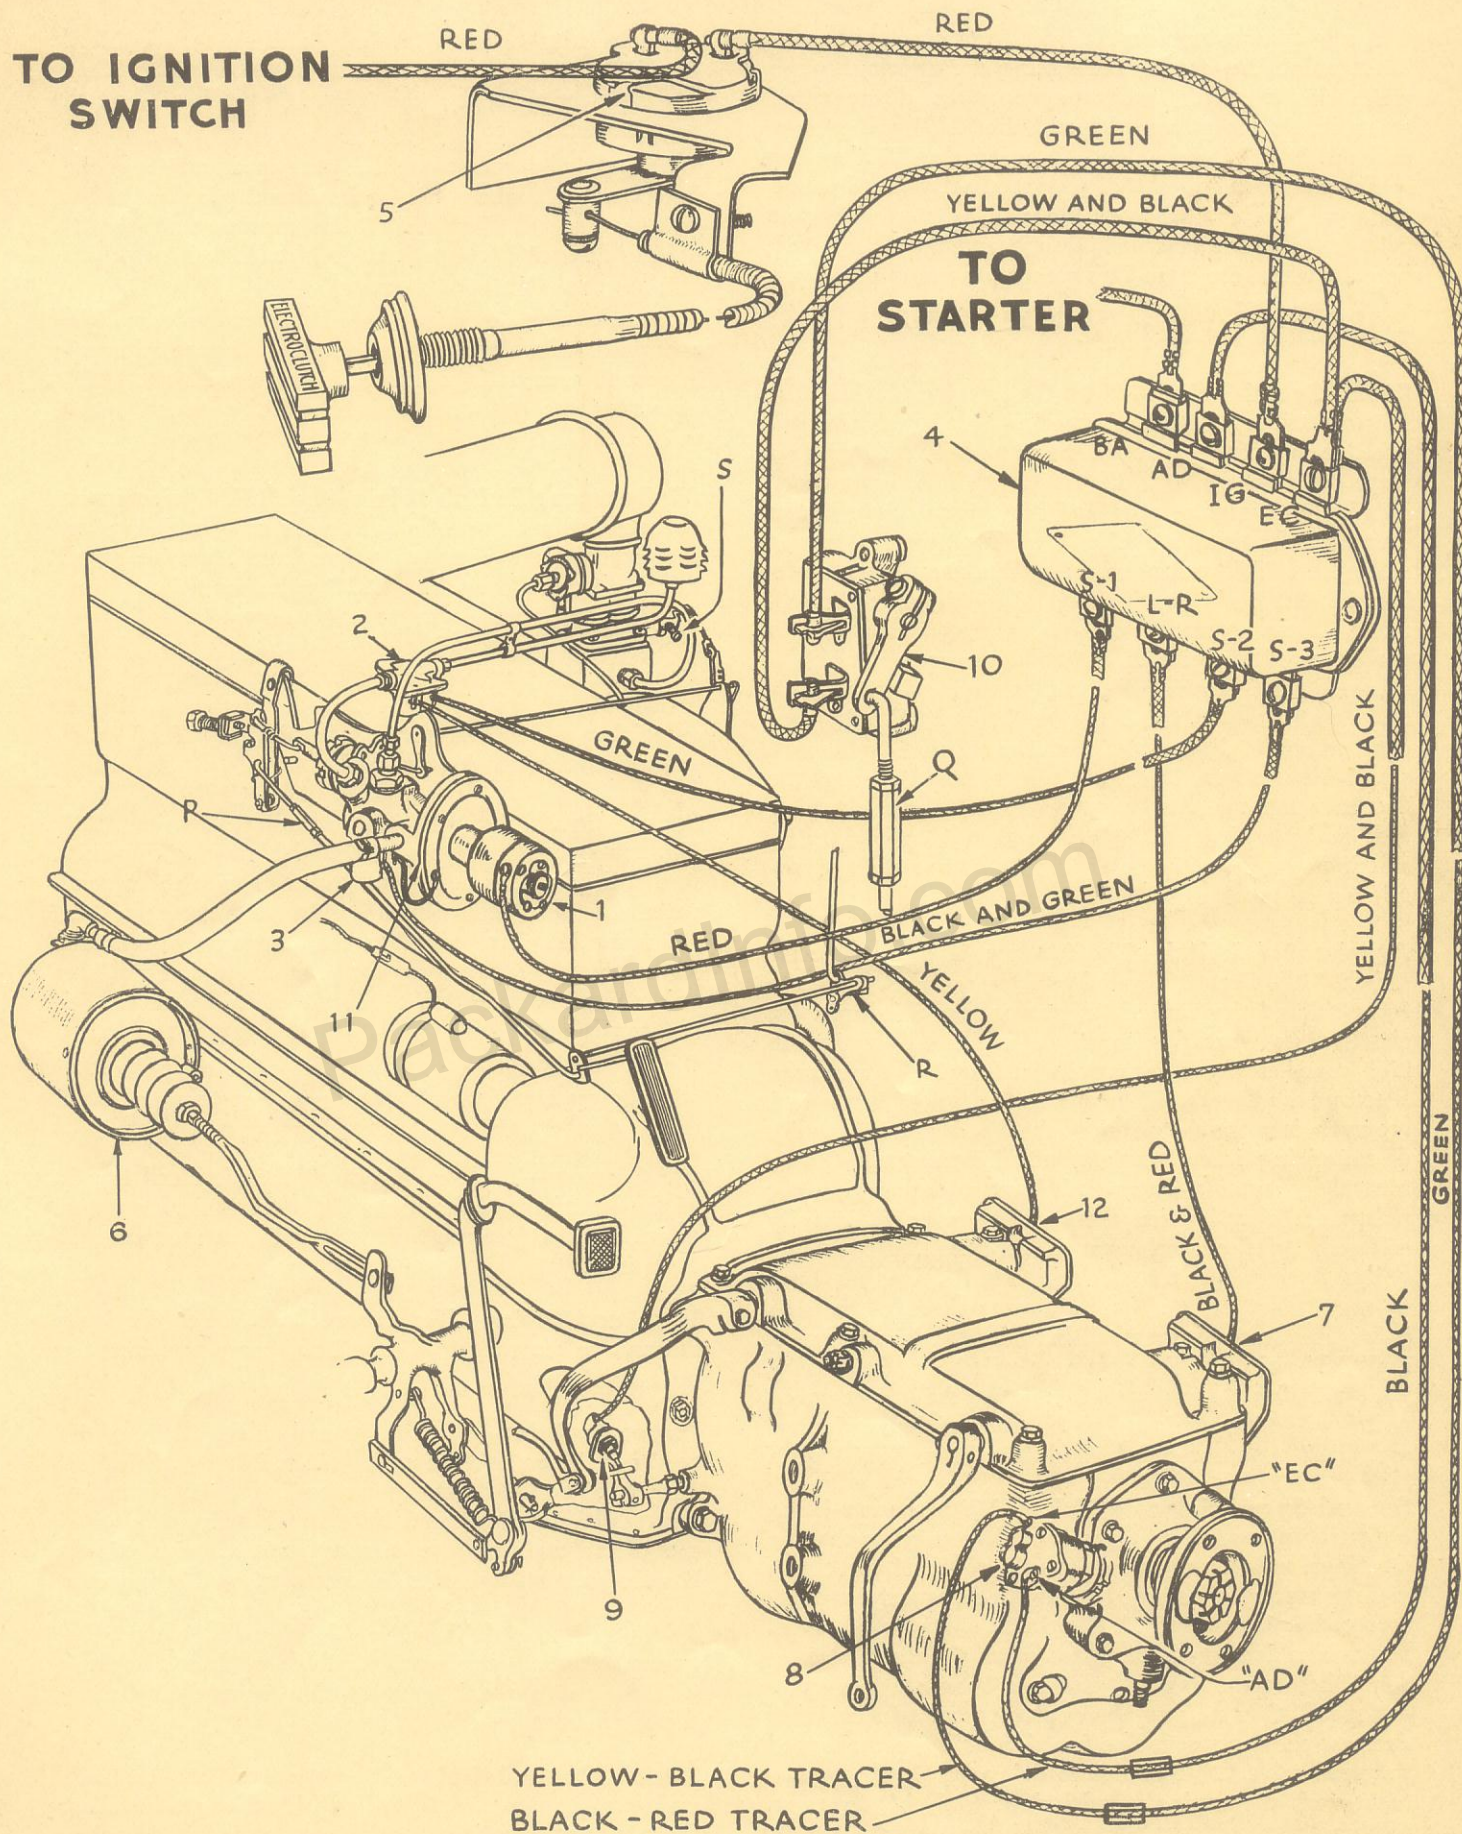
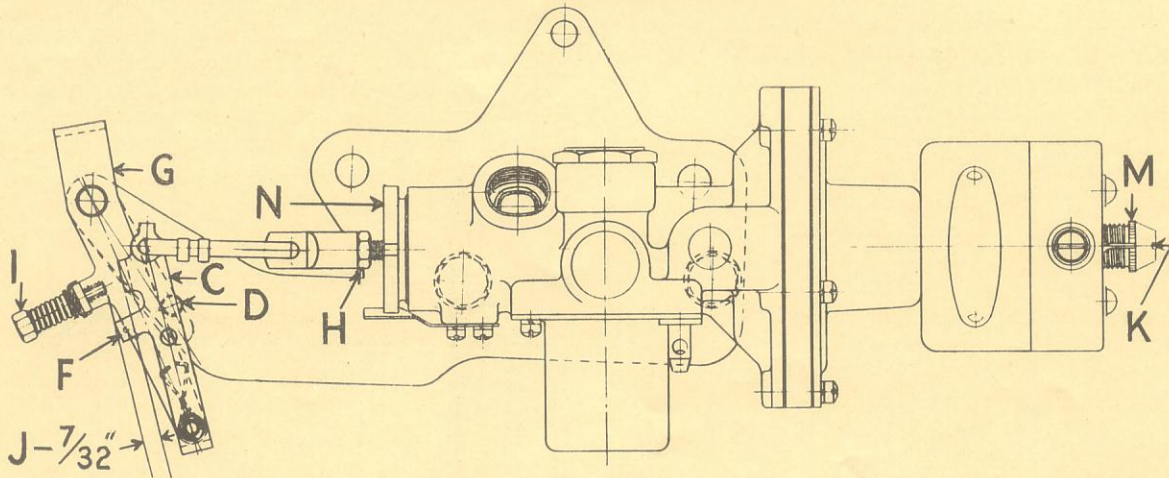

Figure 1—Schematic diagram of Electromatic Clutch.
Figure 2—Electromatic Clutch Control Valve showing principal points of adjustment.
A power cylinder "6" Fig. 1 actuated by inlet manifold vacuum is employed to operate the clutch. The power cylinder is connected to the standard clutch linkage in such a manner that either the manual (clutch pedal) or Electromatic Clutch control can be used at will.
**Clutch Control Valve**—The rate of air bleed into the vacuum cylinder and hence the rate of clutch engagement is controlled by a pressure regulating valve called the clutch control valve "11" Fig. 1 located in the vacuum line between the inlet manifold and power cylinder. The clutch control valve is a compound valve which regulates the rate of air bleed to provide the desired clutch engagement action as well as the proper engine speed synchronization. One element, the spool, is connected through a compound linkage to the accelerator pedal. Another element, the sleeve, is actuated by a spring loaded vacuum diaphragm which is subjected to a vacuum equal to that in the power cylinder.
**Electromatic Relay**—A three unit relay "4" Fig. 1 mounted under the bonnet on the front side of the dash is provided to operate the solenoid controls. In operation, closing a switch completes the circuit and causes a light current to flow through the relay. This current energizes a coil in the relay, closing a set of contact points, allowing a heavy energizing current to flow through the solenoid circuit.
**Direct Speed Solenoid**—A solenoid shut-off valve "3" Fig. 1 is built into the vacuum supply line at the clutch control valve. When the solenoid is de-energized, the valve is closed, shutting off the vacuum supply to the power cylinder, thus making the Electromatic mechanism inoperative. The direct speed solenoid valve is controlled electrically through the lock-out, direct speed, accelerator and governor switches.
**Lock-out Switch**—The Electromatic Clutch may be locked out, made inoperative, by means of the instrument board switch marked "Electroclutch," "5" Fig. 1. When the knob is in the "out" position the switch points are open, thus breaking the circuit and de-energizing the direct speed solenoid valve. This makes the Electromatic mechanism inoperative through shutting off the vacuum supply to the power cylinder. In this position the lock-out switch overrules all other control switches. In the "in" position the switch points are closed, energizing the direct speed solenoid, making the Electromatic mechanism operative. For certain phases of operation this solenoid is de-energized by other controls.
**Low and Reverse Solenoid**—A slower rate of clutch engagement is required when starting in low and reverse than when starting in second and high. In order to obtain two ranges of clutch engagement, the low and reverse solenoid "1" Fig. 1 is provided. When energized, the solenoid pushes a plunger forward increasing the load of the clutch control valve diaphragm spring retarding the rate of clutch engagement. The solenoid is energized only when the gear shifter is in low or reverse. When in neutral, second or high, the solenoid is de-energized.
**Low and Reverse Switch**—The low and reverse solenoid is controlled by the low and reverse switch "7" Fig. 1 which is operated by the low and reverse transmission shifter rail. Contact points in the switch are closed energizing the low and reverse solenoid only when in low and reverse. When the shifter lever is in neutral, the switch is open and the solenoid is de-energized.
**Governor Switch**—With only the controls described so far, the clutch would be disengaged and the car would "free-wheel" every time the accelerator pedal was released. A governor switch "8" Fig. 1 is employed to lock out the Electromatic mechanism and prevent free-wheeling in high gear at speeds above 17 miles per hour. The governor is similar to that used with the Aero-Drive except that there are two sets of points, the Electromatic Clutch points marked "EC" and the Aero-Drive points marked "AD".
**Direct Speed Switch**—With the governor making the Electromatic mechanism inoperative, it would be impossible to shift gears above the governed speed without some device to overrule the governor. The direct speed switch "9" Fig. 1 is provided for this purpose. When the switch points are closed, it completes a circuit around the "EC" points of the governor switch energizing the direct speed solenoid and making the Electromatic Clutch operative, thus overruling or cancelling the effect of the governor. The direct speed switch is mounted on a bracket so that it is operated by the second and high gear shifting lever. The switch points are open when the direct (high) gear is engaged and closed at all other times. The switch is adjusted so that the first movement of the gear shifter lever out of the high gear position closes the contact points, thus permitting clutch disengagement before any movement of the transmission lever takes place.
**Accelerator Switch**—The function of the accelerator switch "10" Fig. 1, located under the bonnet on the front side of the dash, is to prevent possible excessive clutch plate wear due to slippage when operating in high gear below the governed speed, by locking out the Electromatic Clutch. When the accelerator switch points are open, it opens the circuit to the direct speed solenoid, de-energizing it and making the Electromatic Clutch control inoperative. The switch is set so that the contact points are closed when the accelerator pedal is fully released. As the accelerator is depressed, the contact points open when the slack in the linkage has been taken out but before the carburetor throttle starts to open. The accelerator switch is connected in series with the "EC" points of the governor switch and in parallel with the direct speed switch so that the direct speed switch will overrule or cancel the effect of the accelerator and "EC" governor switch in all but direct (high) gear.
**Second Speed Solenoid Valve**—With the car being operated in second gear under widely varying throttle openings, an offensive lurch would result if the clutch were permitted to engage rapidly the instant the accelerator pedal was depressed. The lurch would result from the sudden decrease in car speed when the clutch was engaged before the engine speed had been brought up to car speed, thus causing the engine to act as a brake to decrease the car speed. The function of the second speed solenoid valve "2" Fig. 1 is to delay the clutch engagement until the engine speed is increased to correspond to the car speed, thus accomplishing a smooth engagement without lurch. The second speed solenoid valve is
**Second Speed Switch**—The second speed switch "12" Fig. 1, mounted on the second and high gear transmission shifter rail, is connected in series with the second speed solenoid. This switch has but one set of points, which are closed to complete the circuit only when the second speed gears are engaged. At all other times, the points are open and the second speed solenoid de-energized.
- Adjust carburetor cross shaft lever linkage so that with the throttle operating lever "G" Fig. 2 in contact with stop pin "D," the carburetor throttle lever rests on the idle adjusting screw "S" Fig. 1 and the linkage is free with normal slack.
- Adjust accelerator pedal lever at turnbuckle "P" Fig. 1 so that with the lug "F" on clutch control lever "C" holding throttle operating lever "G" against stop pin "D" there is a positive clearance ( $1/32"$  to  $1/16"$ ) at the accelerator cross shaft stop "R" Fig. 1.
**3. Engine Speed Adjusting Screw Gap**—Holding control valve lever stop "F," Fig. 2 against throttle lever "G," adjust engine speed adjusting screw "I" to produce  $7/32"$  gap at "J."
- Depress accelerator pedal to just take up clearance at "J," Fig. 2 then adjust spool rod at "H" into or out of the clevis until the power cylinder piston rod just starts to move out of the cylinder. If the piston rod starts to move before clearance is taken up at "J" screw spool rod out of clevis. If it does not start to move when all clearance is taken up, screw spool rod into the clevis.
**5. Low and Reverse Engagement**—Note: Two adjustments are provided. The Allen head screw "K," Fig. 2 for starts in low and reverse, the knurled head screw "M" for starts in second and high. The first and reverse adjustment "K" alters the second and high adjustment. For this reason the first and reverse adjustment should be made first and a second and high adjustment must always be made following a first and reverse adjustment. Use S.T. 10175 Adjusting Tool.
- If engagement is too sharp (grabs) turn knurled head screw "M," Fig. 2 in ( $\frac{1}{4}$  turn at a time) until a smooth engagement is obtained, at not to exceed 700 RPM engine speed.
- Screw body plug "N," Fig. 2 out until clutch grabs. Then turn in one notch at a time until smooth engagement is obtained without engine stumble.
**8. Shift Down from High**—Make the adjustment at direct speed switch "9," Fig. 1 located on outside of transmission case under second and direct speed shifter lever, using test light such as Ignition Timing Light S.T. 724.
**9. Accelerator Switch**—Make the adjustment at accelerator switch control rod turnbuckle "Q" Fig. 1, using test light such as Ignition Timing Light S.T. 724.
- Depress accelerator pedal slowly. The test light should go off just after the stop on the control valve lever "J" Fig. 2 contacts the engine speed adjusting screw "I" on the throttle operating lever, but before the carburetor throttle lever starts to move.